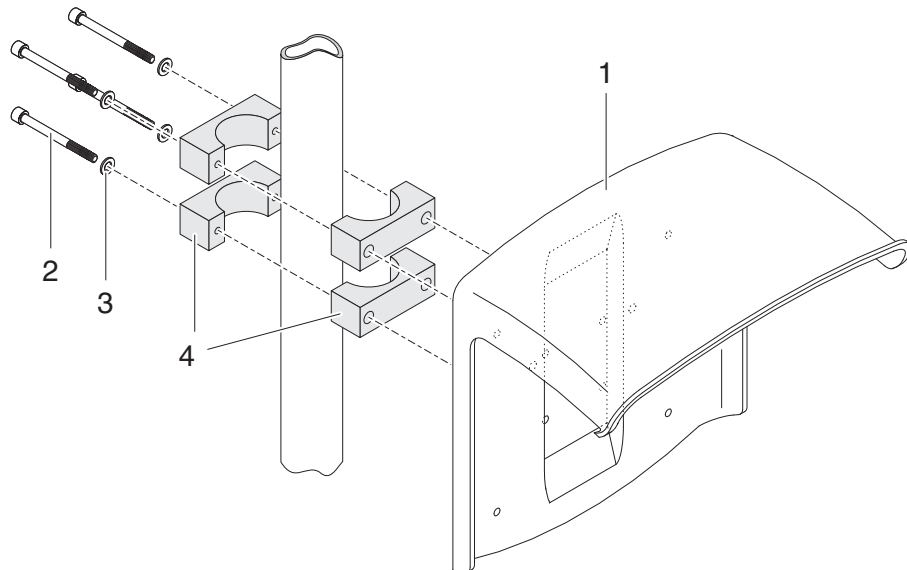

figure 3-18 Mounting the SSH/IQ sun shield on a mounting stand
- 1 Screw the sun shield (pos. 1 in figure 3-18) with the four hexsocket head screws (pos. 2), the washers (pos. 3) and the clamps (pos. 4) at the required height on the mounting stand from the back.